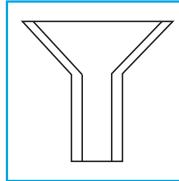

Fig 4.
3. Slowly turn the Handle clockwise so the Flaring tip extends downwards towards the Die. Ensure the Flaring Tip is aligned accurately to apply even pressure on the Die. Turn the Handle until the pipe tube reaches the upper shoulder of the Die (Figure 4).